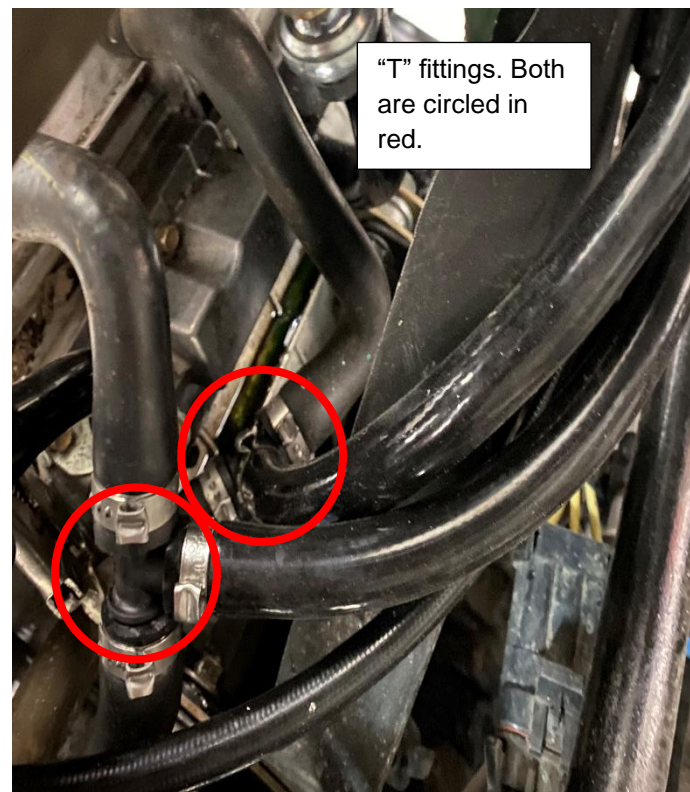

Figure 3
- Step 19:** Route the (2) turbo coolant lines around the turbo and down to the "T" fittings. Slide both hoses onto the 1/4" fitting. Clamp with supplied 19mm clamps. (Figure 3).